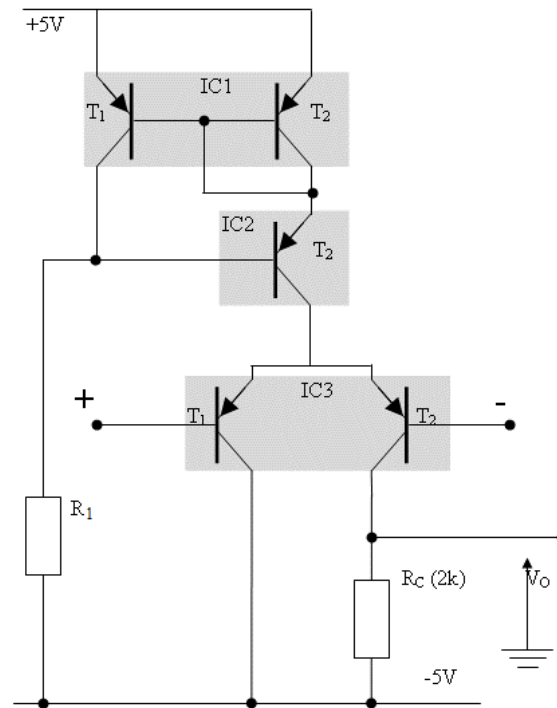

Figure 12 LTP with active load
- Connect the collector output of the Wilson current-mirror you constructed in section 5 in place of resistor  $R_E$  (Figure 12).